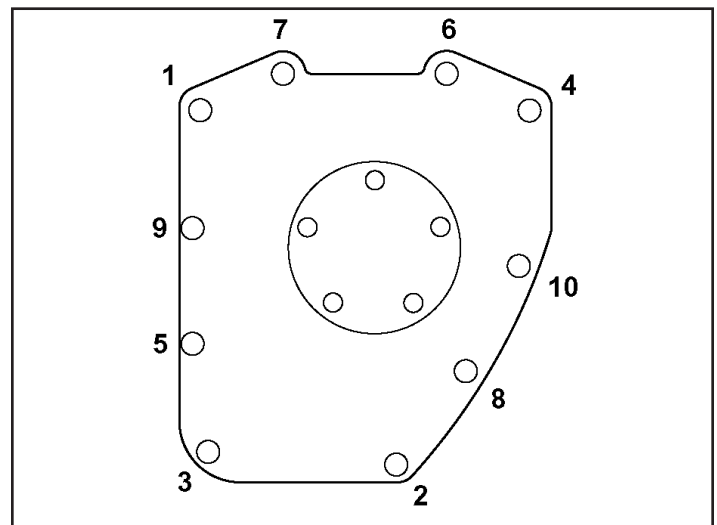

Figure 3
33. Use a new gasket and install cam cover. Tighten cover bolts to 100 in-lbs. in the sequence shown in **Figure 3.**